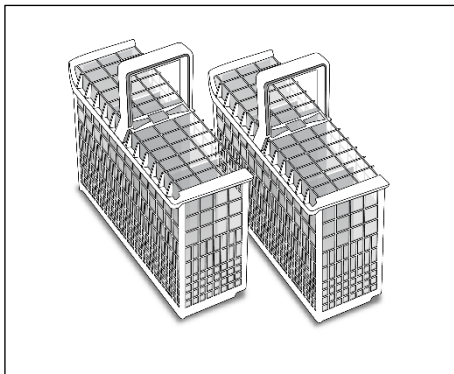

Figure 4
- **AQUASTOP (fig. 4):**
- Place the cutlery holder on the lower basket (fig. 4 and 3), making sure that the cutlery does not get in the way of the rotating arms.